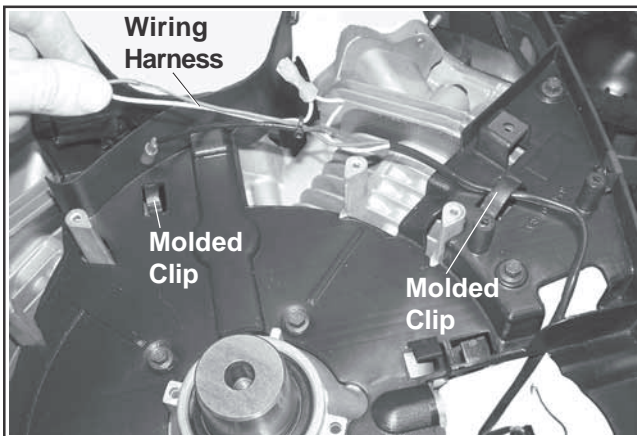

Figure 8-34. Removing Wiring Harness.
4. Unhook the wiring harness from the molded clips if it is being serviced separately. See Figure 8-34.